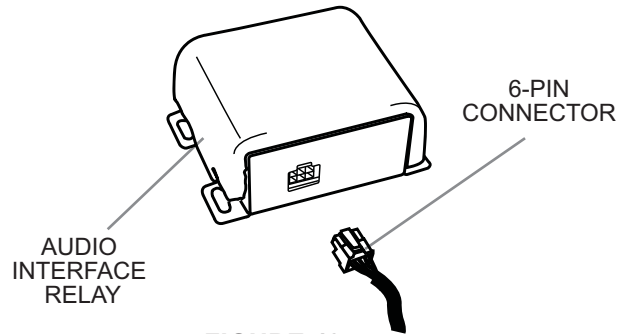

FIGURE 43
- 1.) CONNECT THE 6 PIN CONNECTOR ON THE DVD MAIN HARNESS TO THE 6 PIN CONNECTOR ON THE AUDIO INTERFACE RELAY. (SEE FIGURE 43)